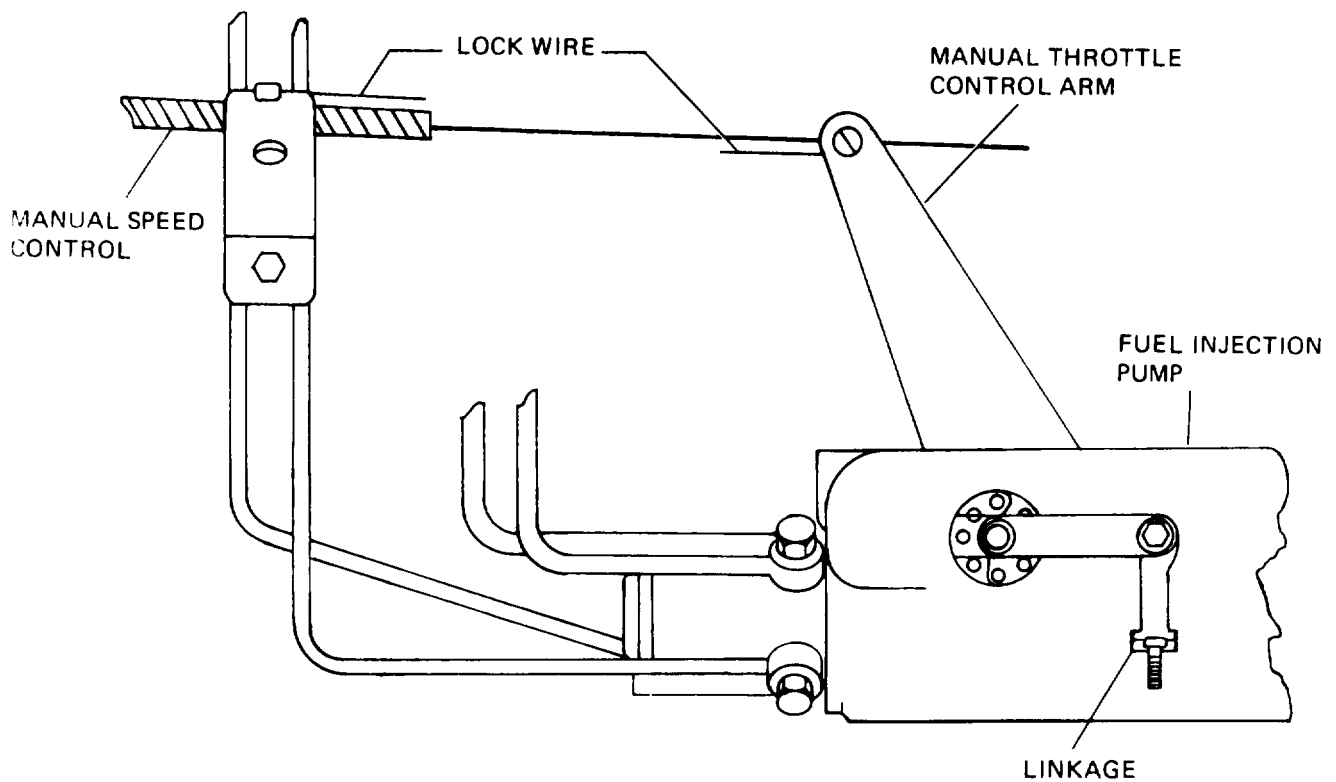
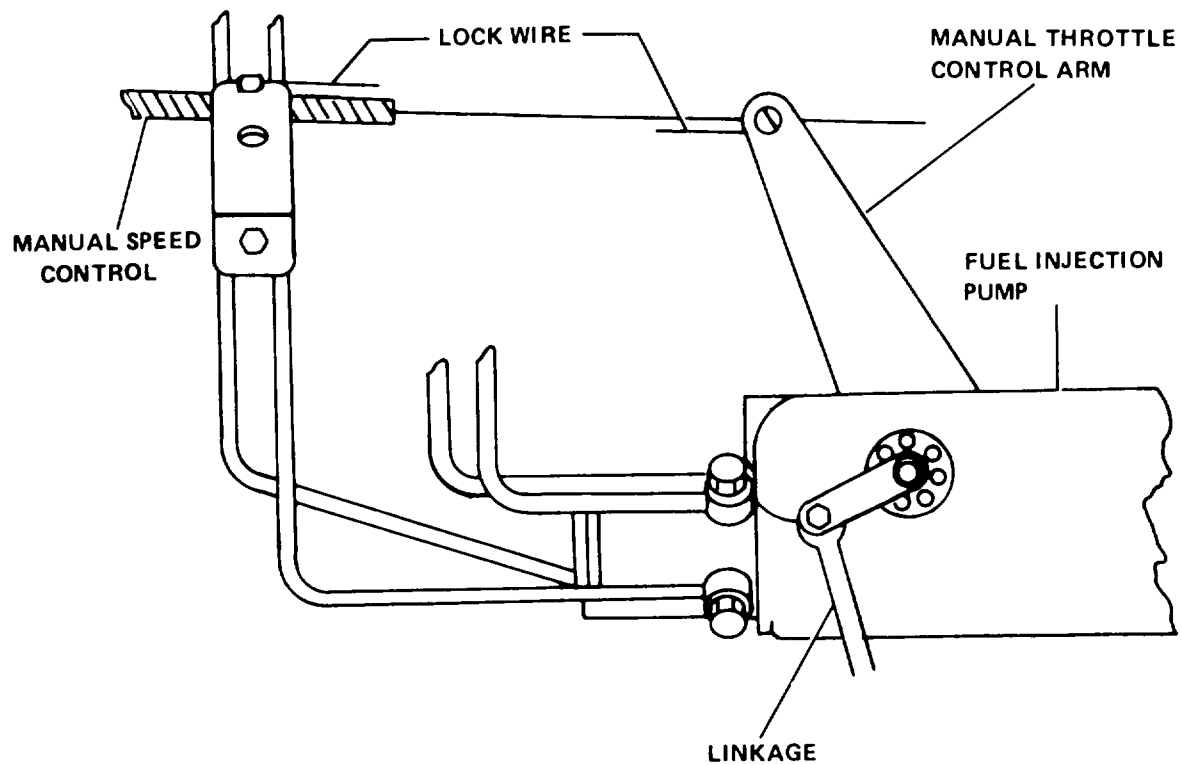

Figure 3-81. Approximate Position of Controls for Connecting Hydraulic Actuator
Figure 3-82. Approximate Position of Controls for Connecting Hydraulic Actuator
- (1) Refer to figure 3-81 for approximate position of controls when connecting linkage. Use figure 3-82 for generators with serial No RZ0001.